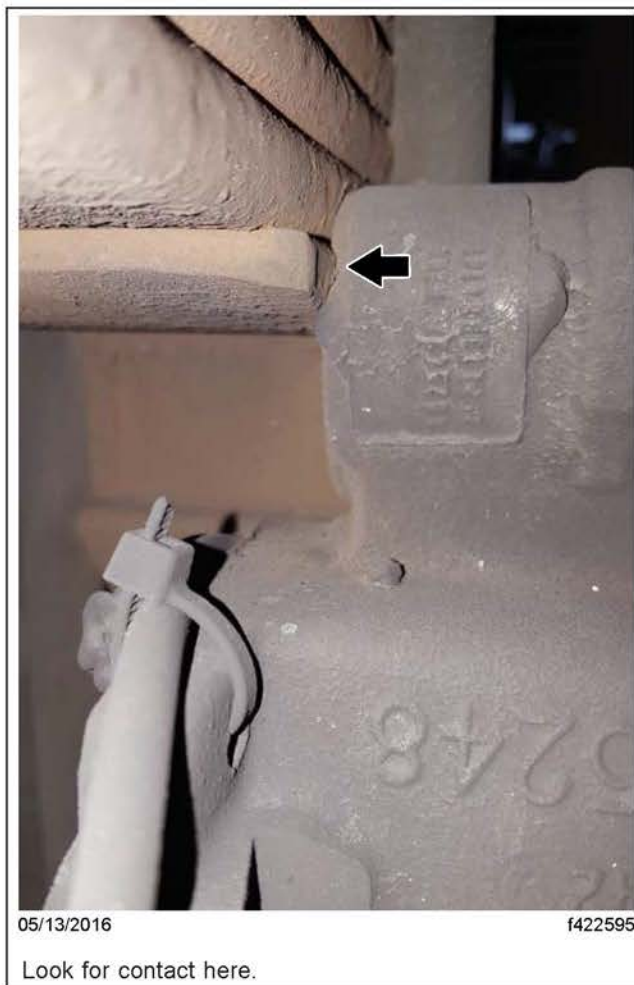

Fig. 4, Contact Area
4. On each axle end, inspect the spring and caliper for evidence of contact. See Fig. 2, Fig. 3, and Fig. 4.